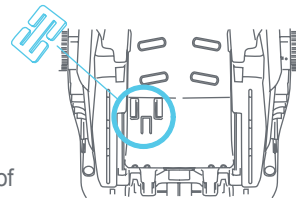
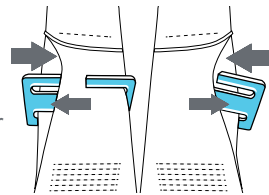

Fig. 32-2
Fig. 32-3
- 1a. **Stored Shortening Clip:** The shortening clip is stored on the back of the carrier (Fig. 32-2). To thread and unthread as needed see the diagram (Fig. 32-3).